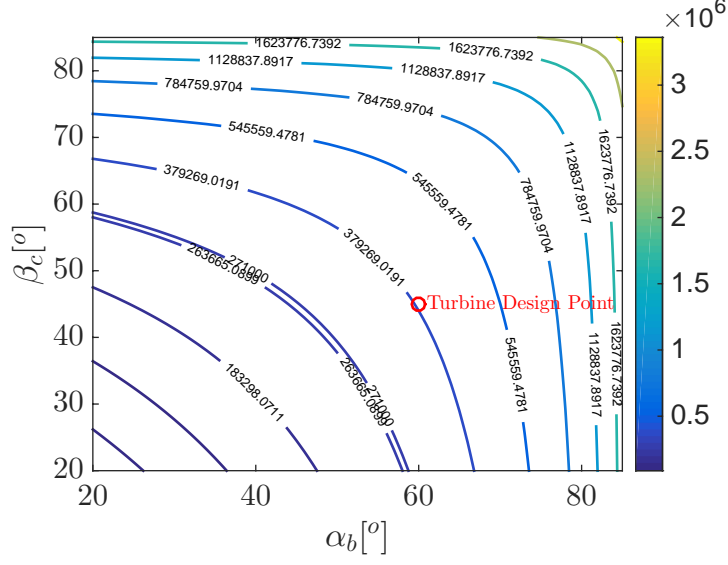

Figure 2: Specific work contour.
- h) Desired work map is shown in Figure 2.
- j) The design point of $\alpha_b = 60^\circ$ and $\beta_c = 45^\circ$ is shown in Figure 2 by the red circle. The turbine work is higher than the target work from HPC (2.17×10^5 J/kg). Therefore, the angles proposed in the presented design is satisfactory.